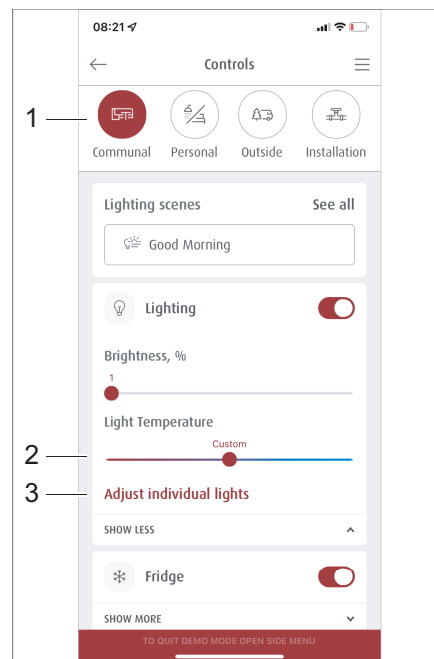
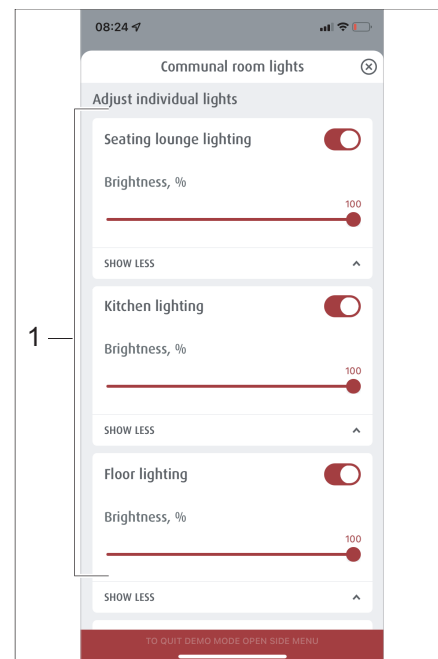

Fig. 283 Selecting preset scenarios
Fig. 284 Managing scenarios
- In the *Operation* menu, click on the *Living* (Fig. 283,1) button.
- In the *Living* menu, click on the *Set lights individually* (Fig. 283,3) button. The *Set lights individually* menu will open (Fig. 284).
- Select the desired lighting from the available options (Fig. 284,1) and use the sliding bar (Fig. 283,2) to set the light temperature.